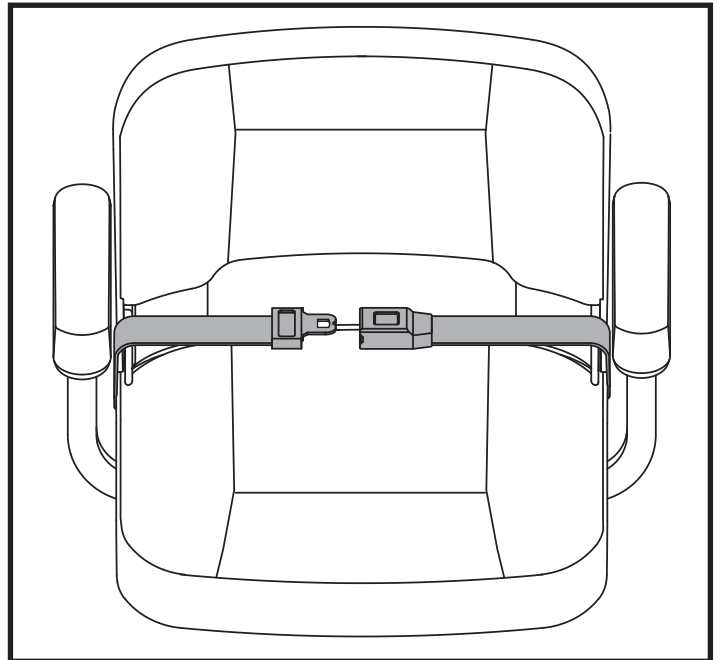

Figure 22. Positioning Belt–Metal Tab Style
1. Insert the metal tab on the right side of the belt into the plastic housing on the opposite strap until you hear a “click.” See figure 22.